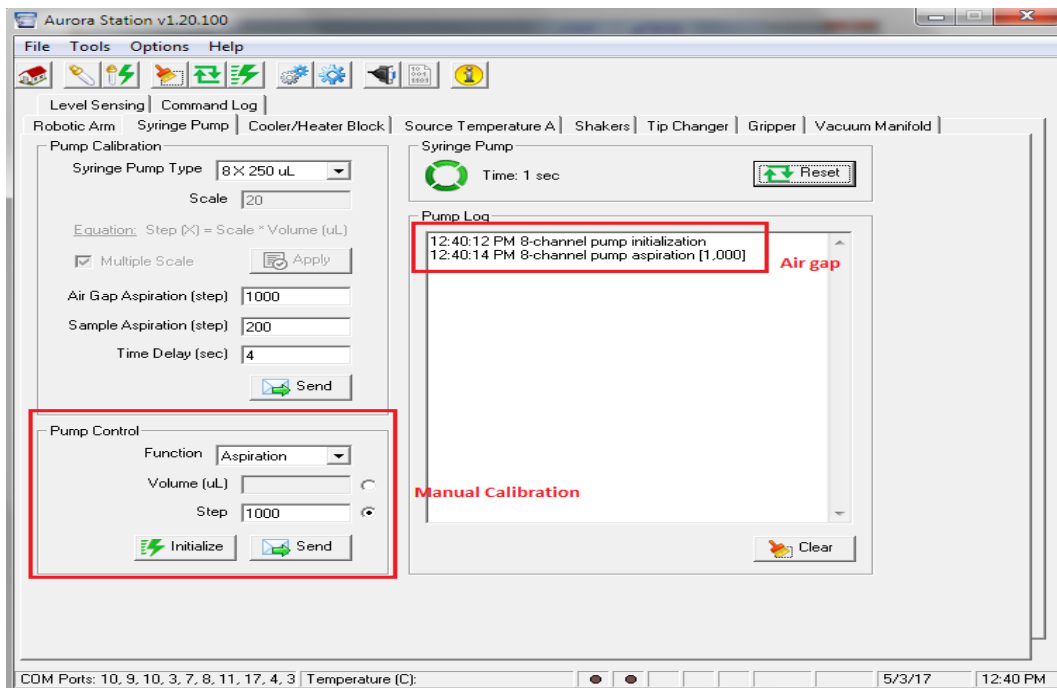

Figure 9-47 Syringe Pump Calibration-Manual mode
- 1 Under “pump control”, select ‘steps’. This will make steps the active field for data entry. Select “aspiration” as the function and enter 1000 steps (10 μ L) which will serve as the air gap, then click the send button. You will see 1000 steps in the command log. (*Figure 9-47 Syringe Pump Calibration-Manual mode*)